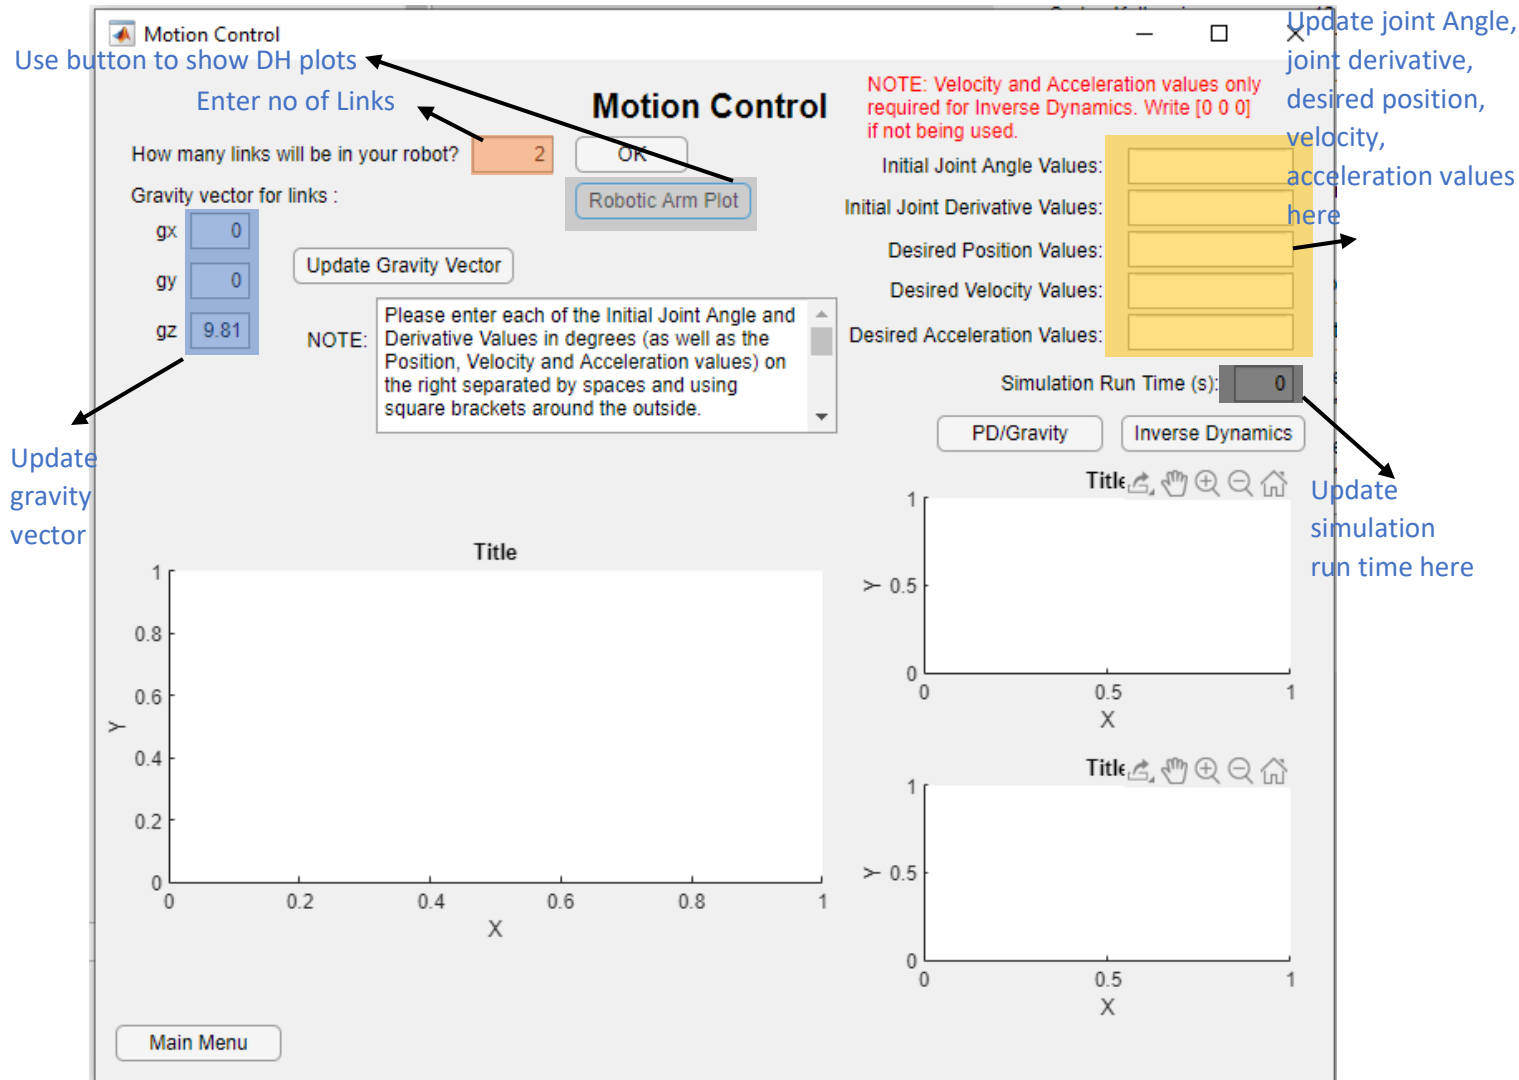
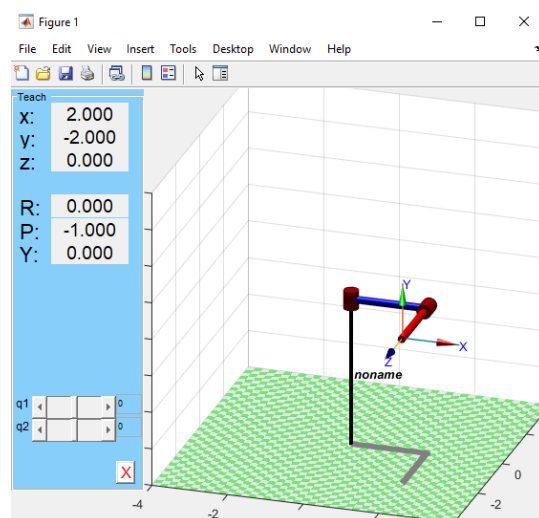

Figure 10.
Figure 12.
When you have selected a YES in familiarity of DH Parameters and selected to solve for Manipulator control you will be directed to this window shown in Figure 10.
Step 1. Enter the number of links in the space highlighted by orange in Figure 10. After entering the number of links, you will get a window such as shown in figure 11.
Step 2. After entering the DH parameters in Figure 11 click on the Robotic Arm Plot button in Figure 10 to get the plot as shown in figure 12.
Step 8. Enter the run time for which we have to run the simulation in the space highlighted in black in figure 10.